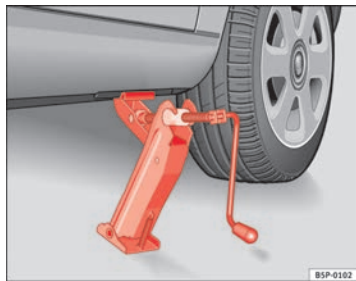

Fig. 180 Fitting the jack
- Align the jack so that the arm of the jack fits around the rib under the door sill and the movable base plate of the jack is flat on the ground ⇒ fig. 180.